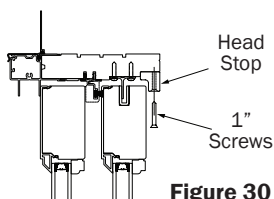

Figure 30
33. With the operable panels in place, reattach the head stop by replacing the 1" Flat Head screws that you removed in step 27 (Fig. 30).